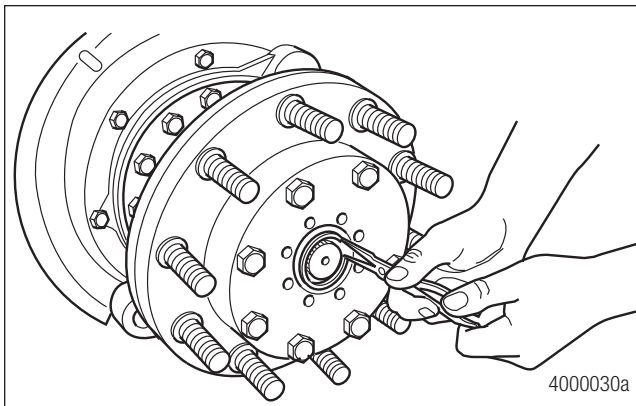

Figure 7.26
4. Install the snap ring onto the end of the axle shaft. Figure 7.26. Ensure the snap ring is positioned in the groove at the end of the axle shaft.